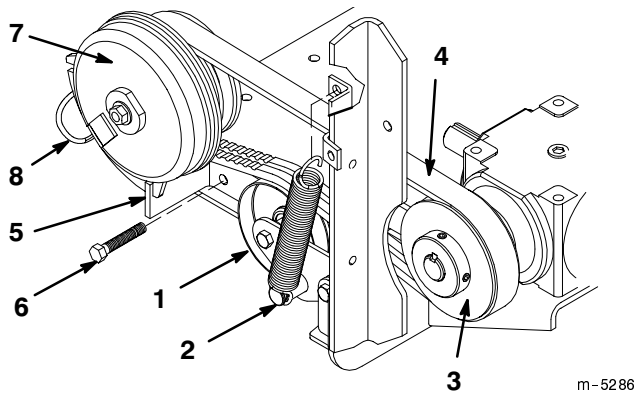

Figure 85
- Hold spring loaded idler against belt, using a rag or thickly-padded glove, and pull spring down to remove from idler stud (Fig. 85).
- Lower idler to relax tension on PTO belt and remove belt from gear box pulley (Fig. 85).
- Remove clutch stop mounting bolts and unplug clutch wire harness (Fig. 85). Remove belt over clutch.
5. Hold spring loaded idler against belt and pull spring down to install onto idler stud (Fig. 85).
6. Install clutch stop (Fig. 85). Tighten mounting bolts securely.